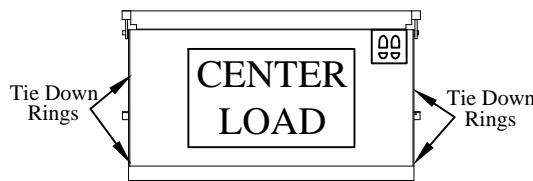

Figure 18: Step 12.
- Step 12. To load and use the railgate, center the load on the platform side to side and front to back (Figure 18). Put heavier loads as close to the front of the platform as possible (near truck). Platform cart stops may be actuated at this time, if equipped. Tie down rings are provided to help secure the load.
- D. Stand in the area indicated by the footprints in the figure below (Figure 18), keeping hands and feet away from the edges and any moving parts.